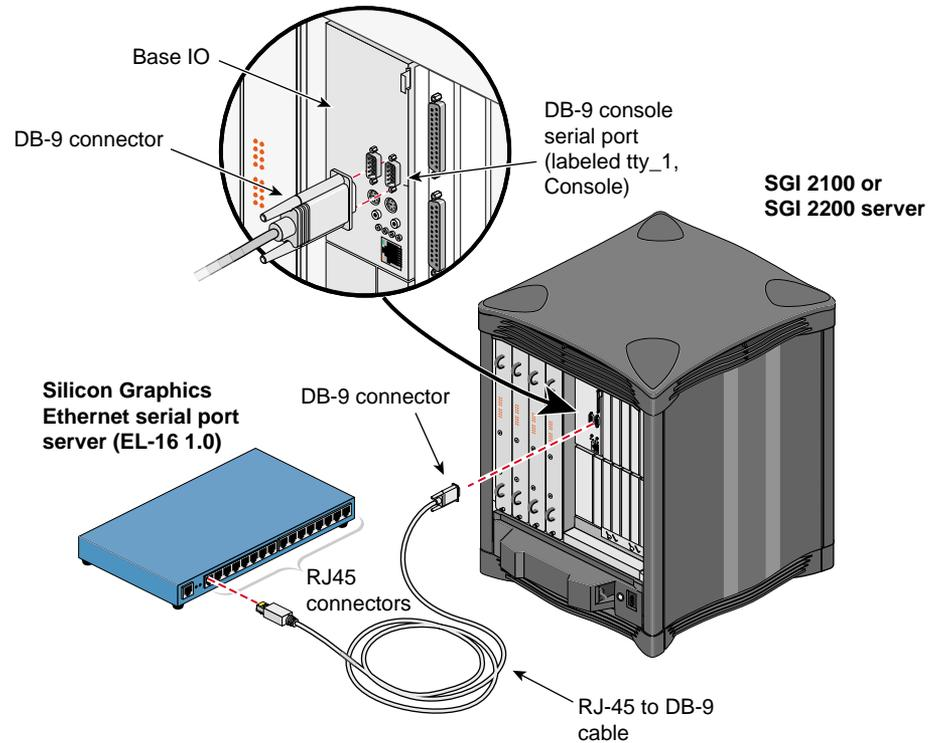

Figure 2-19 Connecting the Serial Port Server to the SGI 2100 or SGI 2200 tty_1, Console Connector
5. Connect the RJ-45 end of one of the RJ-45 to DB-9 cable to one of the RJ-45 jacks on the Silicon Graphics EL serial port server. Connect the DB-9 connector to the SGI 2100 or SGI 2200 serial port jack labeled "tty_1, Console." See Figure 2-19.